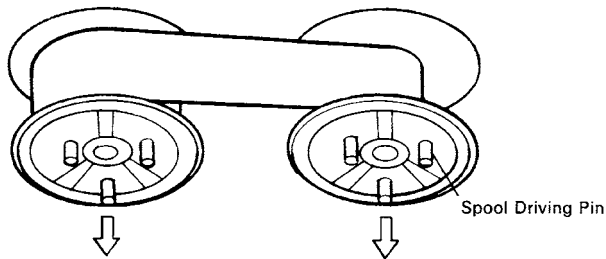

Figure 4-3. Ribbon Spools
- (2) Unwind ribbon so that the spools are separated as shown in Figure 4-3. Hold the ribbon taut as shown with the drive pins facing down and slide the ribbon between the print head and the platen. While keeping the ribbon taut, wrap one side around the black ribbon guide on the end of the platen and drop one spool on the spool shaft. As you move the spool downwards, move the detecting lever aside to allow the spool to drop into place. Make sure the spool drive pins engage with the spool drive holes. As the spool drops into place there will be a click.
- (3) While continuing to hold the ribbon taut, install the remaining ribbon spool in a similar fashion.
- (4) Turn the spool that rotates freely to take up the ribbon slack.